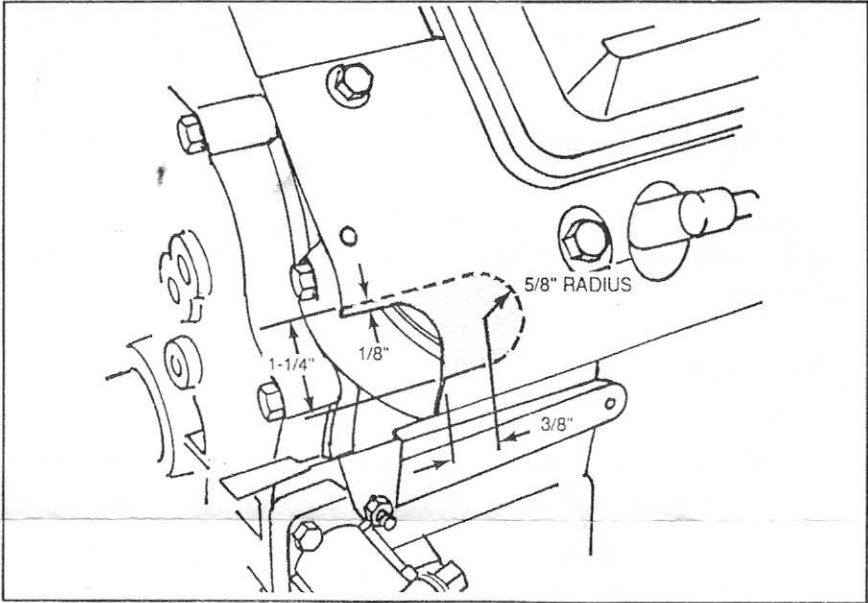

Fig. 1
1. On ducted engines it is necessary to provide clearance for the exhaust manifold. Remove cylinder shield and cut away material as show in Fig. 1.